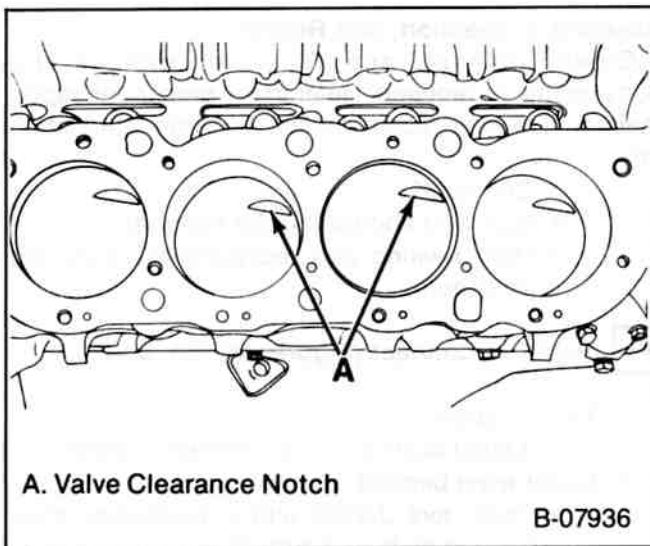

Figure 30—Pistons Installed
- The piston must be installed so that the valve clearance notches are towards the center of the engine (figure 30).